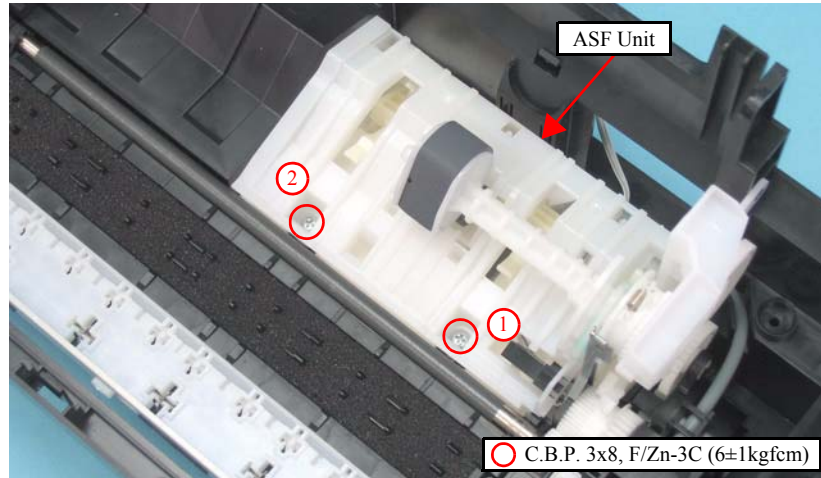

Figure 4-80. Removing the ASF Unit (1)
- Tighten the screws in the order given in Figure 4-80.